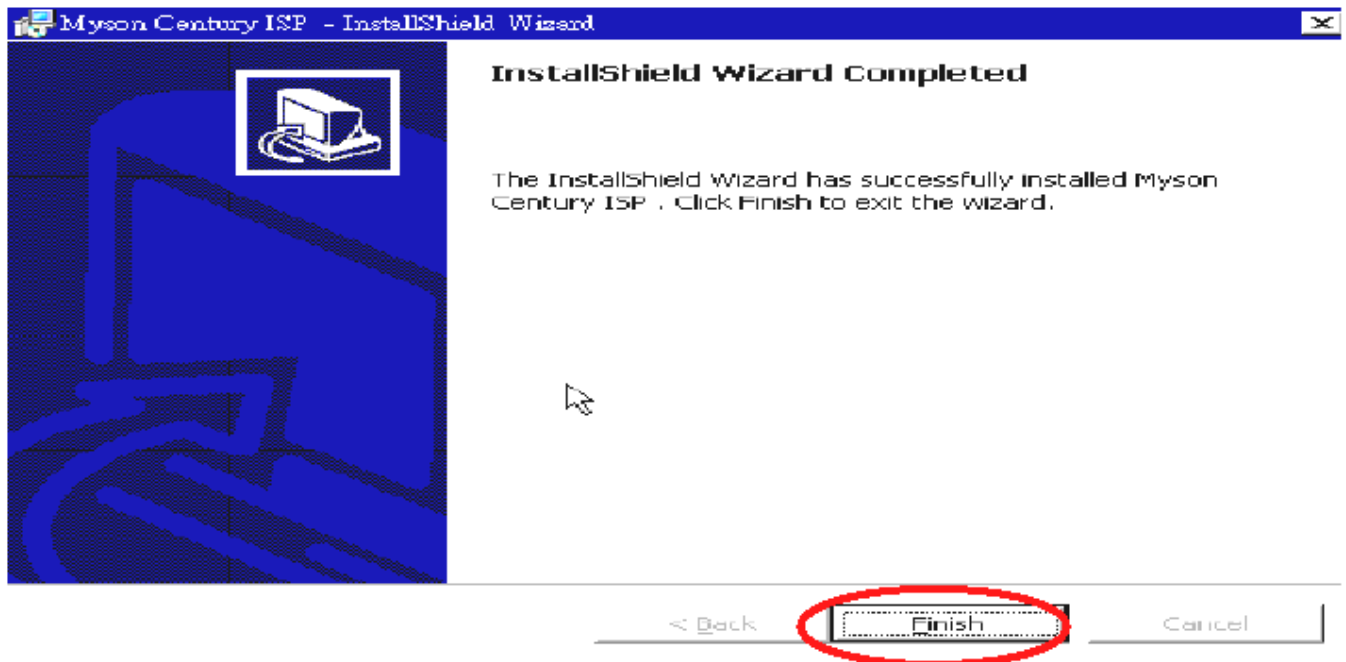

Fig 2.7
2.7 Installation has finished, press “Finish” button, see Fig 2.7.